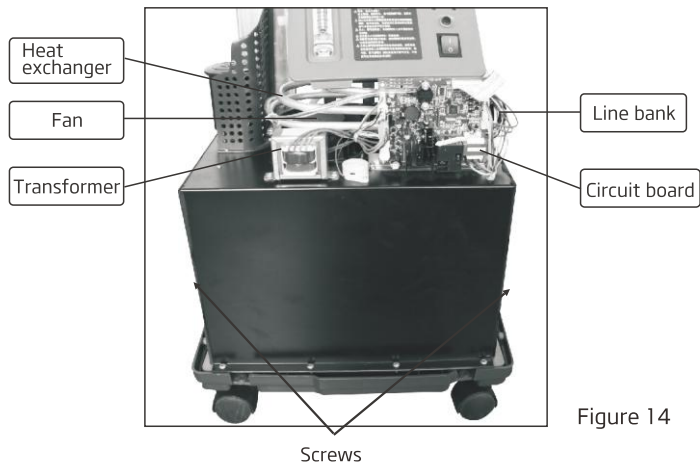

Figure 14
- Unscrew the fixing screws at both sides of the panel(each 7), remove the side panels. (Figure 14)